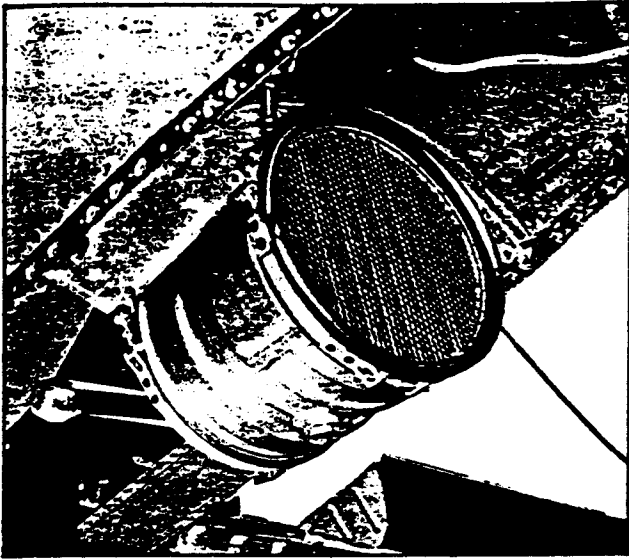

Figure 10. Propeller Gear Box Oil Cooler
1. OIL COOLERS, PROPELLER GEAR BOX.- Each propeller gear box oil system is provided with an oil cooler (Airesearch No. 19096 outboard and No. 16930 inboard) which is located below and forward of the propeller gear box, in the propeller shaft housing. (See figure 10.) The oil coolers are of the honeycomb-core type, incorporating the use of a spring-loaded oil pressure relief valve, temperature control, and surge protection. The control valve is designed to by-pass oil in the event the oil has become congealed or that flow through the oil cooler has become obstructed. No adjustment is provided for the control valve. Air-flow through the oil cooler is automatically controlled by thermo-electrically operated shutters. The shutters may be controlled by manually operated switches located on the electrical panel. These switches may be thrown from the off position to any one of three positions, "AUTO," "WARMER," and "COOLER;" "WARMER" and "COOLER" are momentary and "AUTO" is maintained closed.